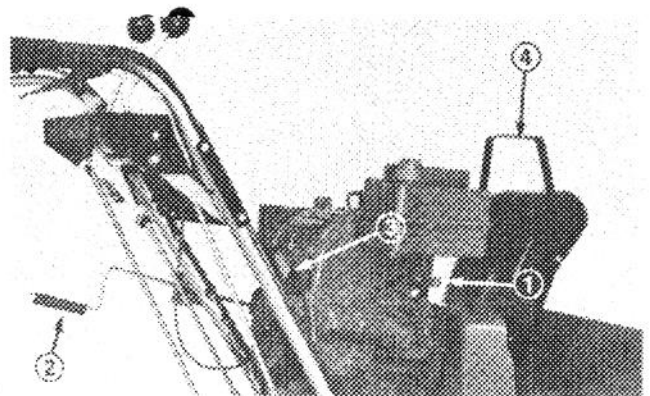

Figure 18
**Fuel Shut-Off Valve (Fig. 18)** – Valve is located under fuel tank. Close valve to stop fuel flow from fuel tank and open valve to allow fuel to flow to the carburetor. Close valve when snowthrower is not used.
**Discharge Chute Control (Fig. 18)** – Rotate discharge chute control clockwise to move discharge chute to the left and counterclockwise to move chute to the right.
**Recoil Starter (Fig. 18)** – Recoil starter is on back side of engine. Pull recoil starter to start engine.
**Deflector Handle (Fig. 18)** – Deflector handle is on top of discharge chute and it is used to control height of the snow stream.